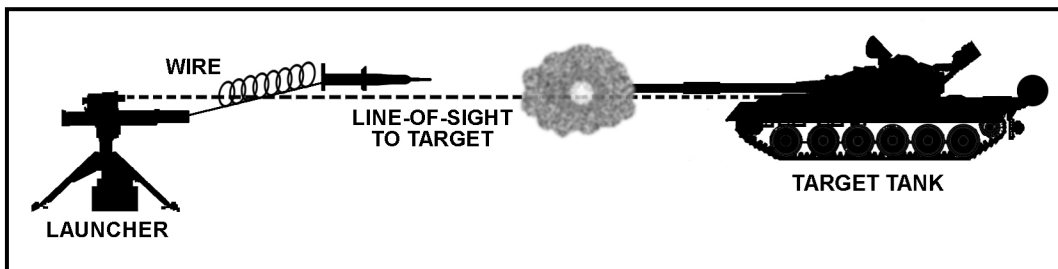
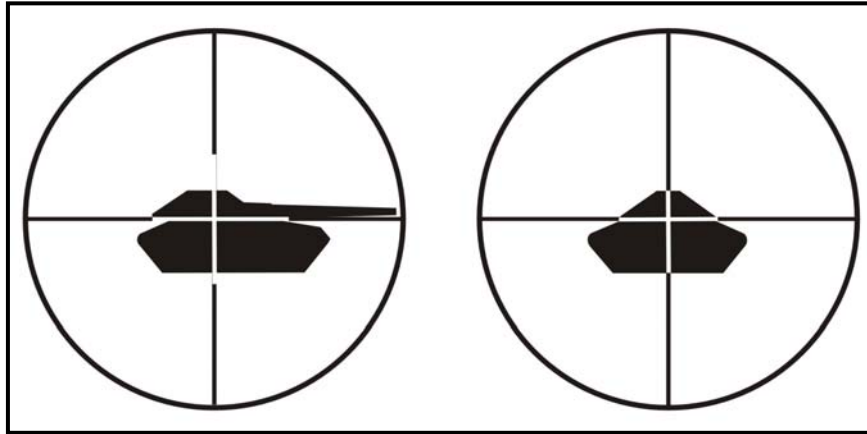

Figure 1-32. Direct attack: missile flies line of sight.
Figure 1-33. Gunner's aim point.
a. **Direct Attack.** All BGM-71A-, -71C-, -71D-, -71E-, and -71H-series, and all BTM-series (practice missiles), are direct attack missiles. These missile fly on the gunner's line of sight to the target (Figure 1-32). The missile will hit the target where the gunner's crosshairs are positioned (Figure 1-33). The warhead detonates upon impact with the target.